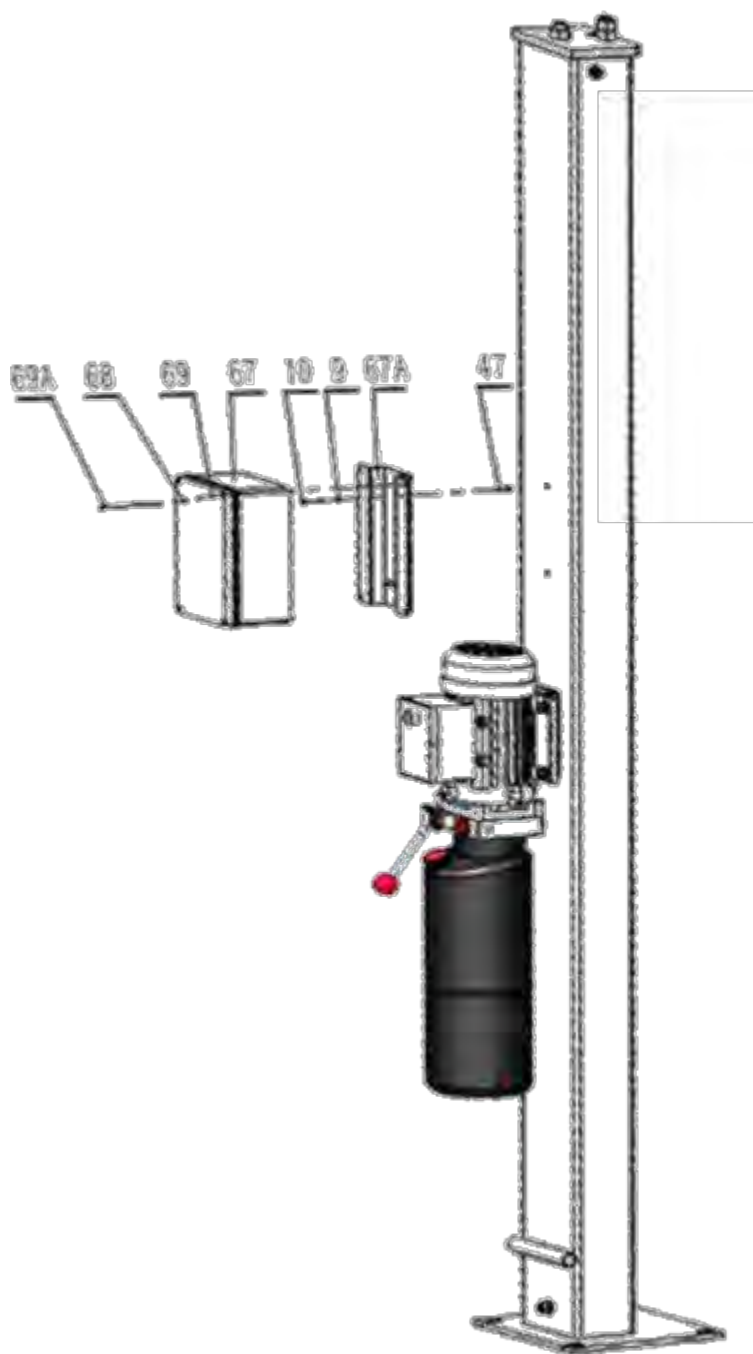

Fig.25
- L. Install the control box( See. Fig.25)